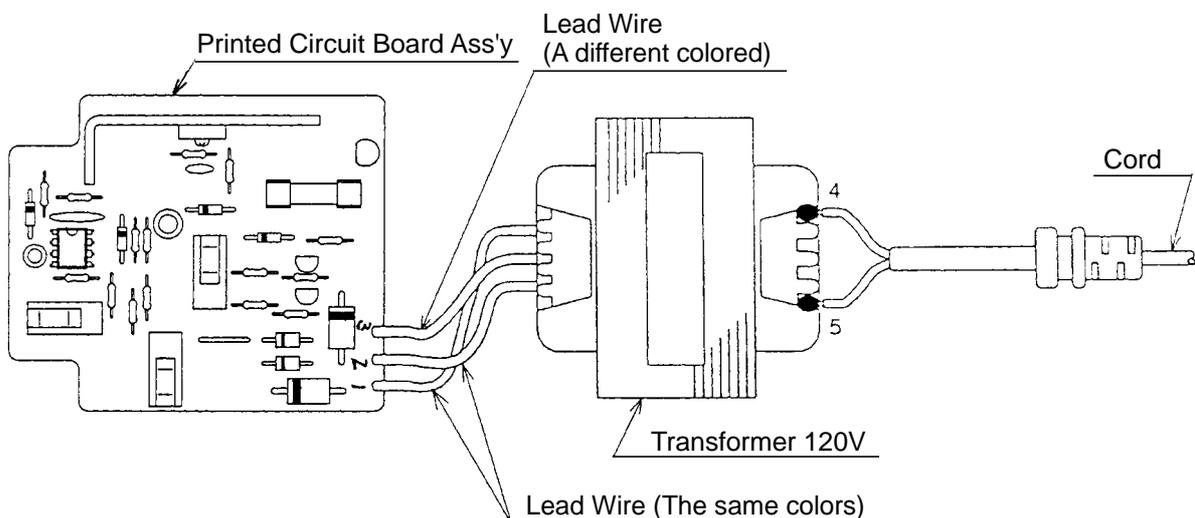

Fig. 3
- (1) Remove the four Screws (Plastic Tie) D4 x 20 **[5]**, and take off Case (B).
- (2) When the Transformer 120V **[9]** is lifted upward, the Printed Circuit Board Ass'y **[4]** and the Cord **[10]** can be removed together.
- (3) To separate the Printed Circuit Board Ass'y **[4]**, Transformer 120V **[9]** and Cord **[10]** melt their soldered connections with a soldering iron at the points marked 1, 2, 3, 4 and 5 in Fig. 3. As excessive heat may damage the material of the Printed Circuit Board, use of the soldering iron should be limited to less than three seconds at one time.